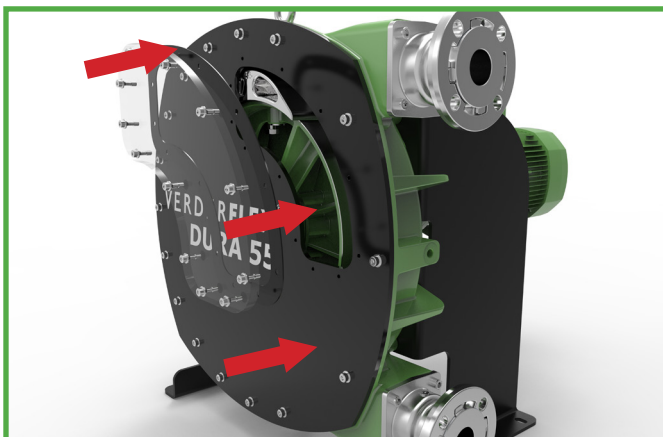

Figure 17. - Fitting the inspection window
3. Mount the window unit, with the bolts and gasket, over the front cover, aligned as shown in Figure 17.